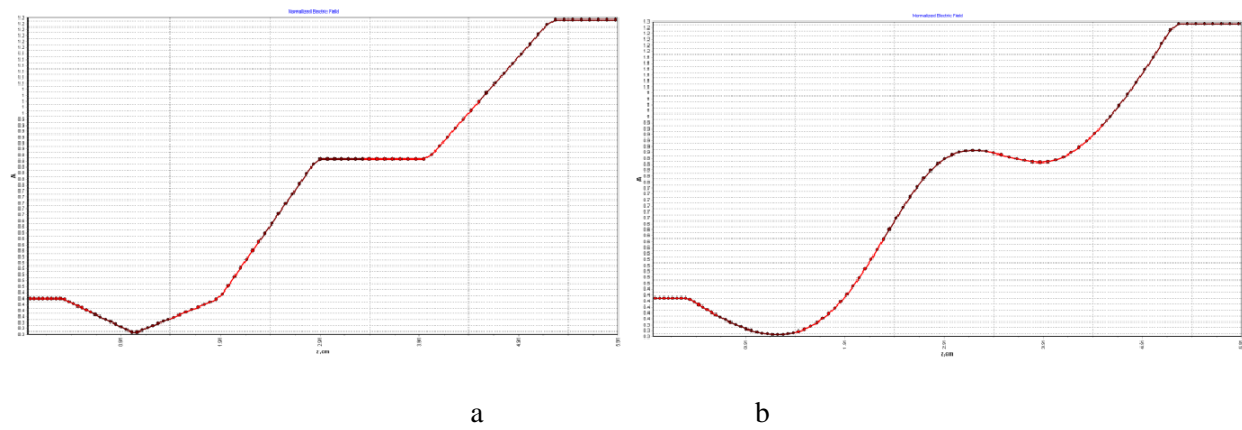

Fig. 4.2 Interpolation types (a-linear; b-cubic)
- Interpolation. Relative phase speed and value of accelerating electrical field are defined in the centers of cells. Then these values are interpolated for other mesh cells (Number of mesh points). In Figure 4.2 are presented 2 kinds of interpolations (linear and cubic). It is recommended to use linear interpolation to avoid nonphysical field oscillations. Smoothing spline can be used for example to obtain spectrum envelope. ***This feature was removed!***